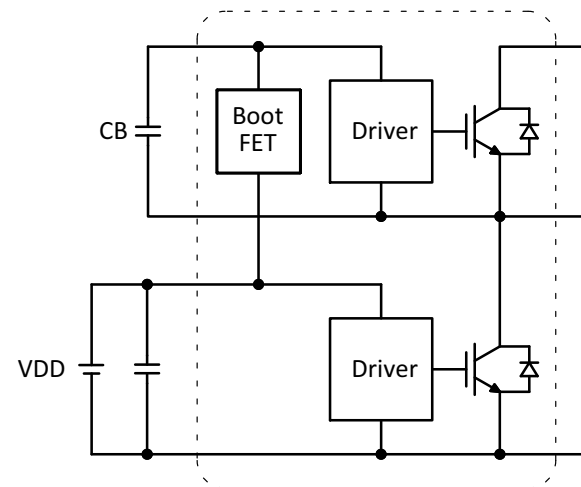

Figure 19. Bootstrap Circuit
floating and electrically isolated. The boot-strap circuit shown in Figure 19 forms this power supply individually for every phase. Due to integrated boot FET only an external boot capacitor (CB) is required.